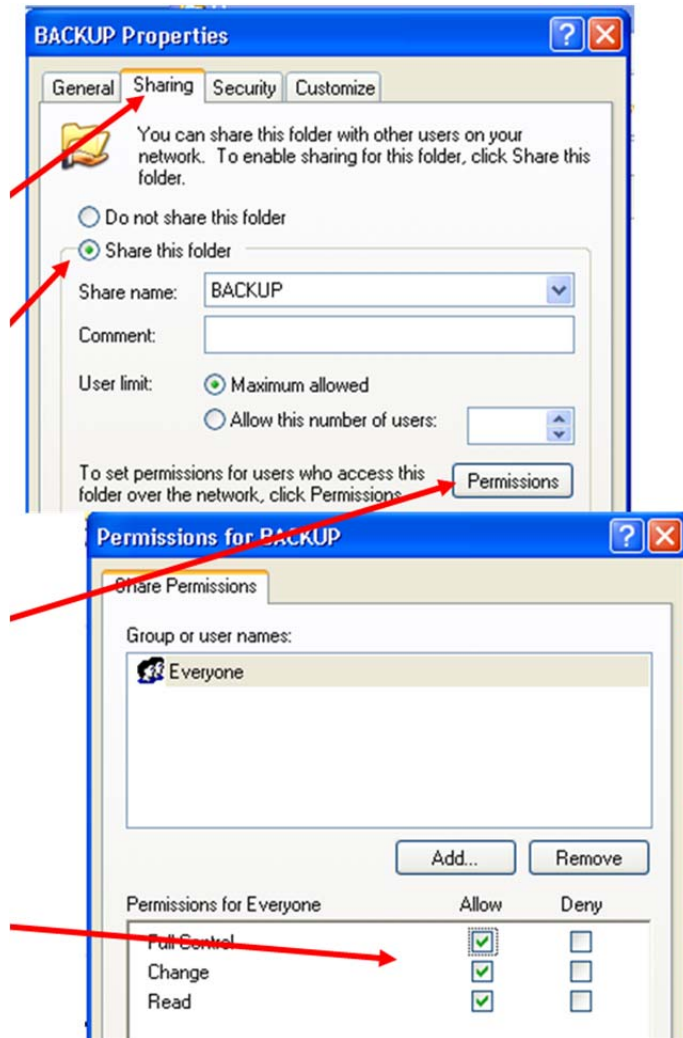

Figure III-30. Permissions Window
- f. If there is a **Permissions** button, click it to open the Permissions window (Figure III-30).